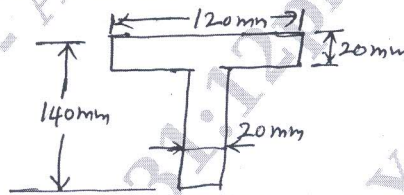

Fig.Q.6(b)
- b. The T-section shown in Fig.Q.6(b) is used as a simply supported beam over a span of 4m. It carries an UDL of 8kN/m over its entire span. Calculate the maximum tensile & compressive stresses occurring in the section. (12 Marks)